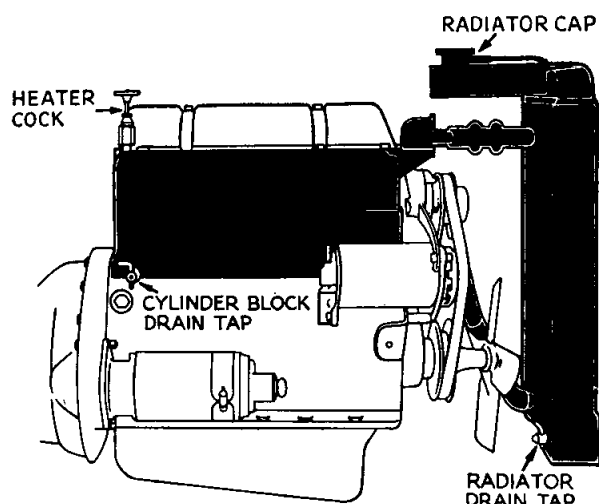

Fig. 1 Draining of Cooling System.
- (b) Open both drain taps (Fig. 1), one situated at the lower extremity of the radiator block and a second in the right hand side of the cylinder block below No. 4 inlet and exhaust manifold.